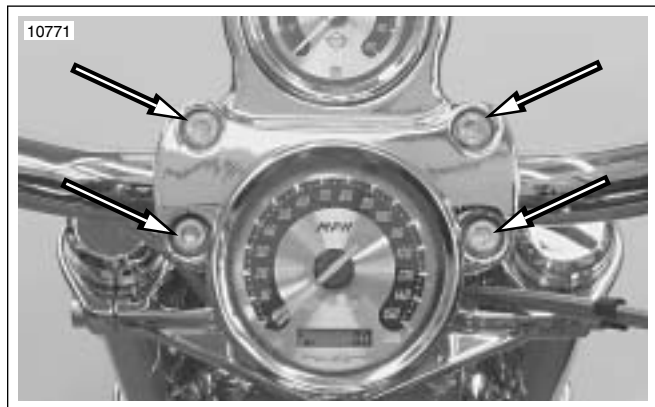

Figure 2-40. Install Handlebar Clamp Bolts
8. See Figure 2-40. Install handlebars to riser and tighten handlebar mount bracket to 16-20 Nm (12-15 ft-lbs).